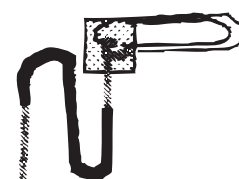

Figure 3.
- b. Use pliers to wrap one end around the end of a small paper clip (see Figure 3).
5. Squeeze the S-curve together a bit so that it clips securely onto the side of the well as shown in Figure 3.
6. Dip the free end of the large paper clip into the copper(II) sulfate solution for several seconds. *Note:* Do not touch the paper clip and the copper wire together.